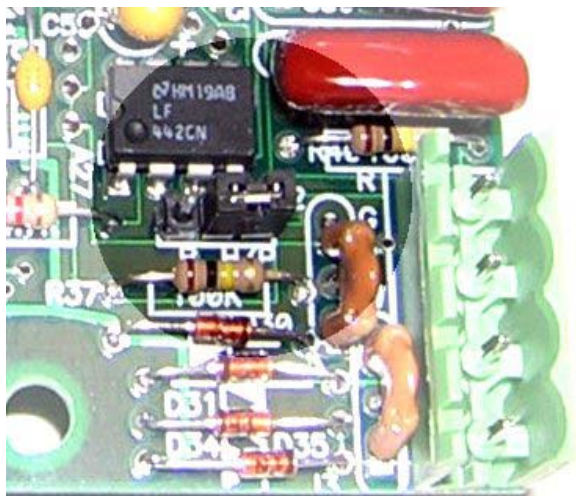

Figure 8-1. Jumper setting:
1. If the control is connected with a Primary Current Transformer, the sensor selection jumper should be put on the two pins on the right, as shown in Figure 8-1.